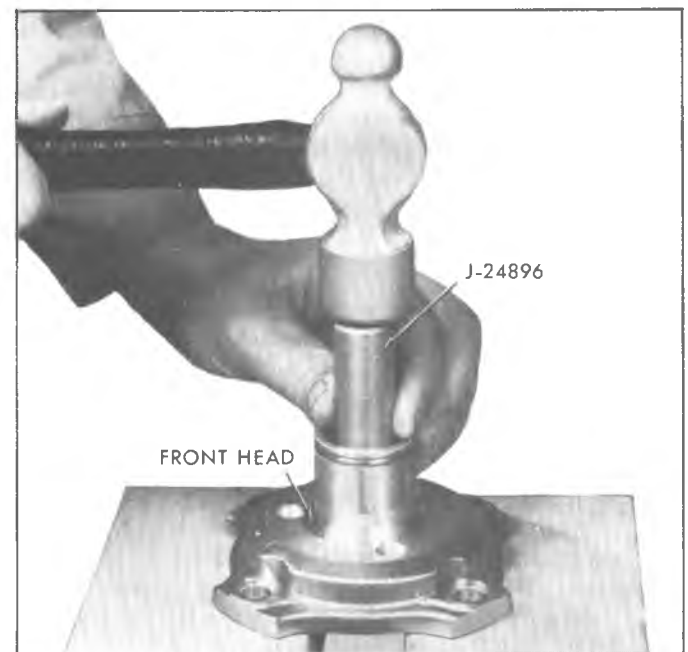

Fig. 21—Removing Main Bearing
2. Place front head assembly on two blocks (Fig. 21) and using main bearing remover J-24896 drive bearing out of front head.